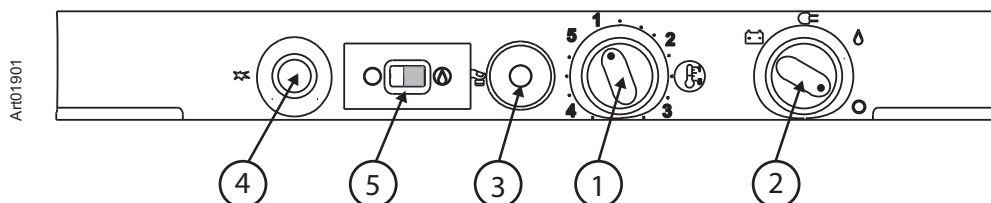

Figure 1. Controls
The thermostat [1] changes the amount of propane gas that goes to the burner (see Figure 1). This acts as the temperature control of the refrigerator. Number 5 is the coldest temperature setting.
3. Turn the thermostat [1] to the 5 position (see Figure 1).